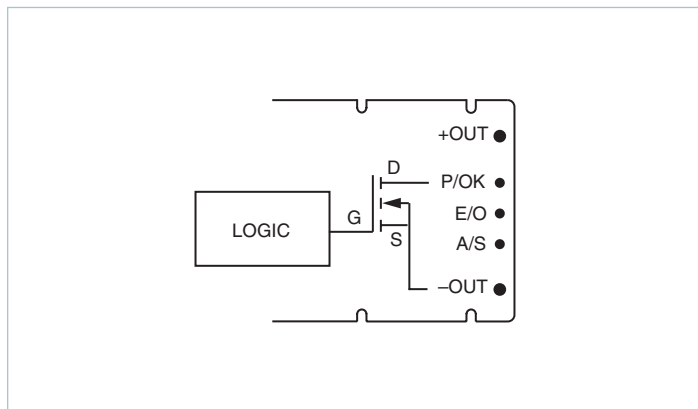
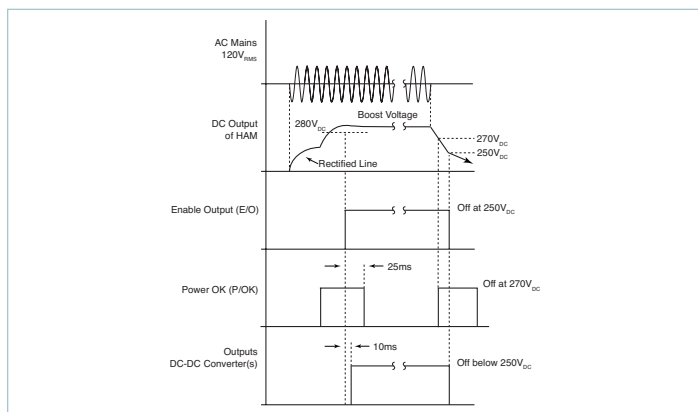

Figure 10.7 — Power OK (P/OK)
Figure 10.9 — Start-up / shut-down timing diagram
**Power OK (P/OK) Pin:** Power OK is a monitor signal that indicates the status of the AC mains and the DC output voltage of the HAM. P/OK is asserted (active low) when the output bus voltage is within normal operating range (>270VDC) and 20 – 25ms after DC-DC converters are enabled by the E/O signal of the HAM. This provides sufficient time for the converters to turn on and their output(s) to stabilize prior to P/OK being asserted, (Figure 10.9). For momentary interruptions of AC power, the HAM will provide at least 16ms of ride through or hold up time (with 1,000 $\mu$ F output capacitor). On loss of power or brownout, (when the HAM output voltage drops below 270VDC) the P/OK signal will go to an open circuit state (Figure 10.7), signaling an impending loss of input power to the converter modules. P/OK will provide power fail warning at least 1ms prior to converter shut down. When the HAM output voltage drops below 250VDC the converters are disabled via Enable Output (E/O).